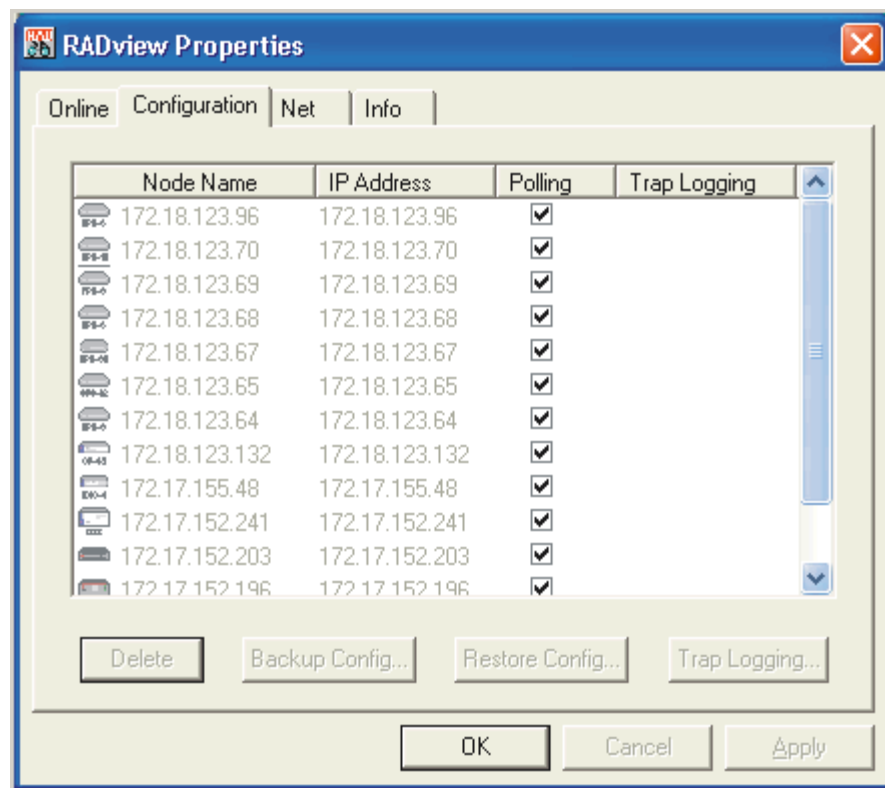

Figure 3-16. RADview Properties Dialog Box - Configuration Tab
The **Configuration** tab (see Figure 3-16) provides configuration information for each node on the map that is managed by the RADview system.
1. Select one or more nodes on the **RADview Properties – Configuration** tab (see Figure 3-16) and click <Delete>.
1. Select one or more nodes on the **RADview Properties – Configuration** tab (see Figure 3-16) and click <Trap Logging>.